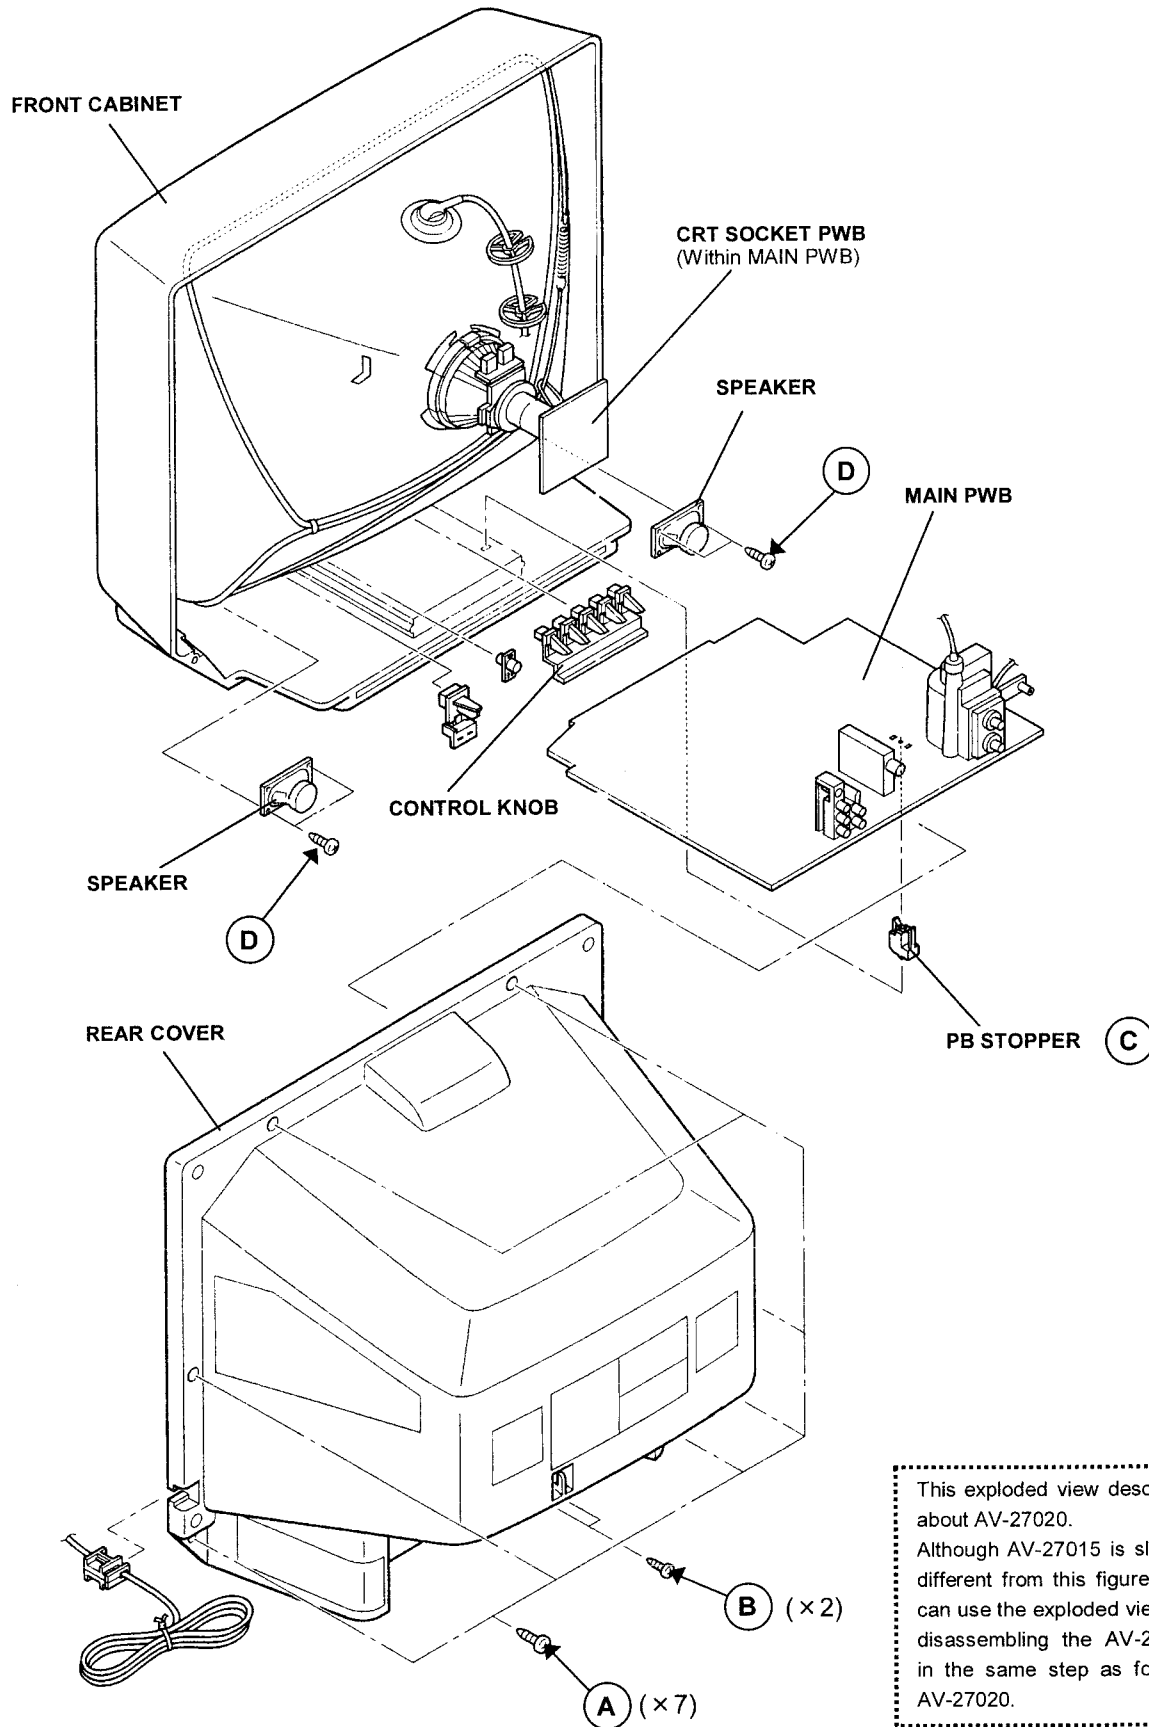

Fig.1
2. Remove the 7 screws marked (A) and 2 screws marked (B) as shown in Fig.1.
2. Remove the 7 screws marked (A) and a screw marked (B) as shown in Fig.1.
1. Remove the 2 screws marked (D) as shown in Fig.1.
(1) Power off Switch off the power and disconnect the power cord from the outlet.
(2) Replace the memory IC Initial value must be entered into the new IC.
(3) Power on Connect the power cord to the outlet and switch on the power.
(4) System constant check and setting 1) Press SLEEP TIMER key and, while the indication of " SLEEP TIMER 0 MIN. " is being displayed, press DISPLAY key and VIDEO STATUS key on the remote control unit simultaneously. 2) The SERVICE MENU screen of Fig.1 is displayed. 3) While the SERVICE MENU is displayed, again simultaneously press the DISPLAY and VIDEO STATUS keys to display the Fig.2 SYSTEM CONSTANT screen. 4) Refer to the SYSTEM CONSTANT table and check the setting items. Where these differ, select the setting item with the MENU UP/DOWN key and adjust the setting with the MENU LEFT/RIGHT keys. (The letters of the selected item are displayed in yellow.) 5) After adjusting, release the MENU LEFT/RIGHT key to store the setting value. 6) Press the EXIT key twice to return the normal screen.	 <p>Fig.1</p>
(5) Receive channel setting Refer to the OPERATING INSTRUCTIONS(USER'S GUIDE) and set the receive channels (Channels Preset) as described.
(7) SERVICE MENU setting Verify what to set in the SERVICE MENU, and set whatever is necessary.(Fig.1) Refer to the SERVICE ADJUSTMENT for setting.